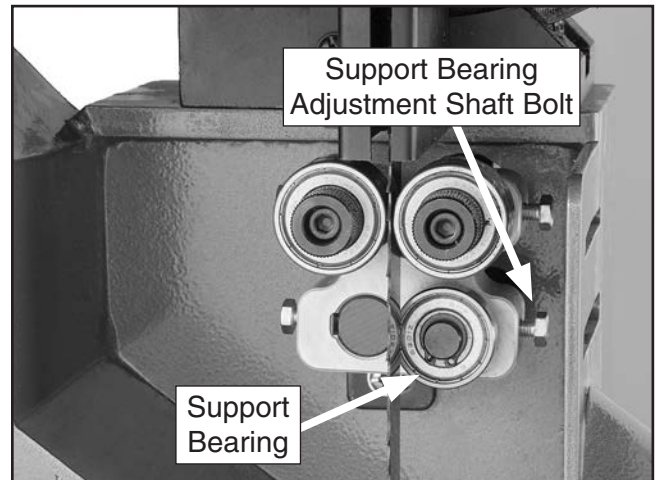

Figure 52. Lower support bearing controls.
3. Familiarize yourself with the lower support bearing controls shown in **Figure 52**.